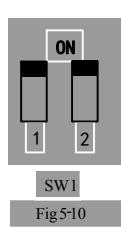

Fig 5-10
(5) There is a red two-digit coding switch SW1 near the control terminal block of 30 kW inverter and below, as shown in Figure 5-10. The function of coding switch is to select the voltage signal (0~5V/0~10V) or current signal of analog input terminal AI2, current channel is default. In actual application, select the analog input channel through F203, and select current signal or voltage singal by F439. Turn switches 1 to ON and 2 to ON as illustrated in the figure, and select 0~20mA current speed control. Another switches states and mode of control speed are as table 5-2.